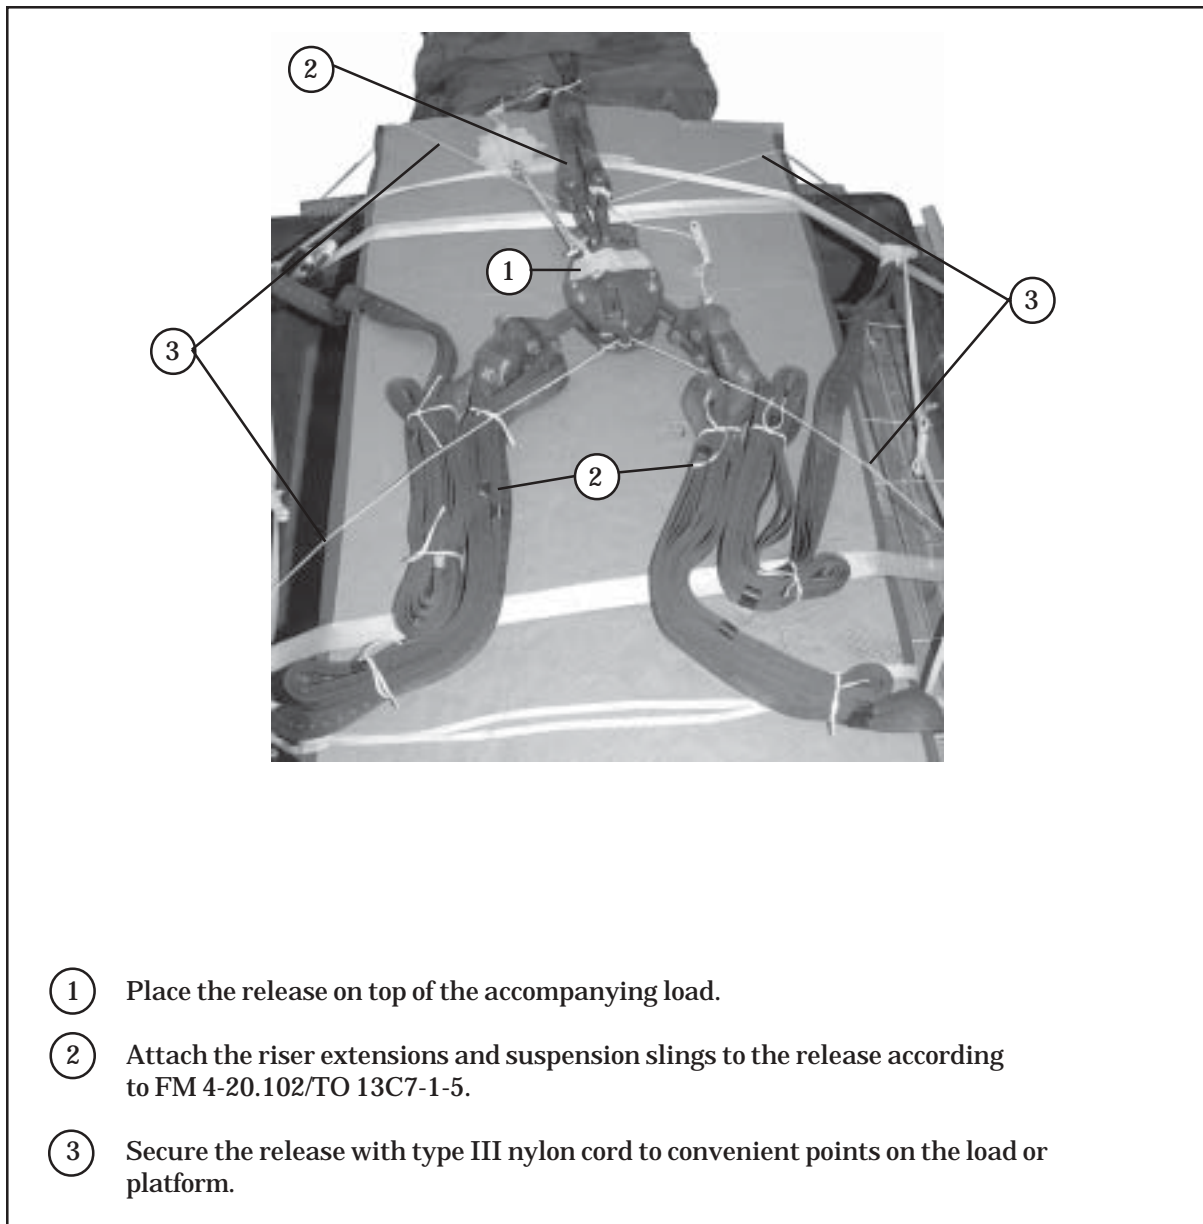

Figure 27. Parachute Release System Installed
14. Prepare, install and safety an M-1 cargo parachute release system according to FM 4-20.102/TO 13C7-1-5 and as shown in Figure 27.